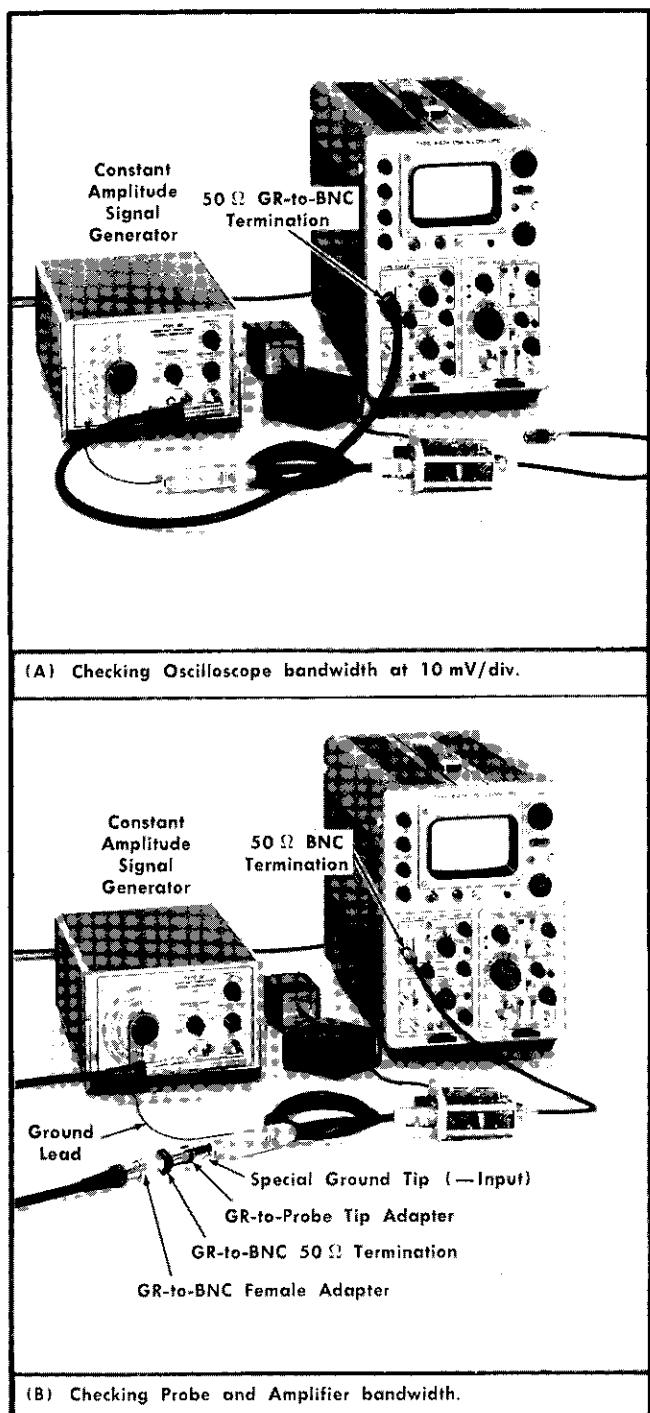

Fig. 6-29. Equipment setup pictures for bandwidth check, step 7.
a. The preliminary control settings apply. The equipment setups are shown in Fig. 6-29.
c. Disconnect the Amplifier's 18 inch cable and 50 Ω BNC termination from the Oscilloscope CH 1 INPUT connector. Connect the following components to the OUTPUT connector of the Constant Amplitude Signal Generator (item 6) in the sequence listed: